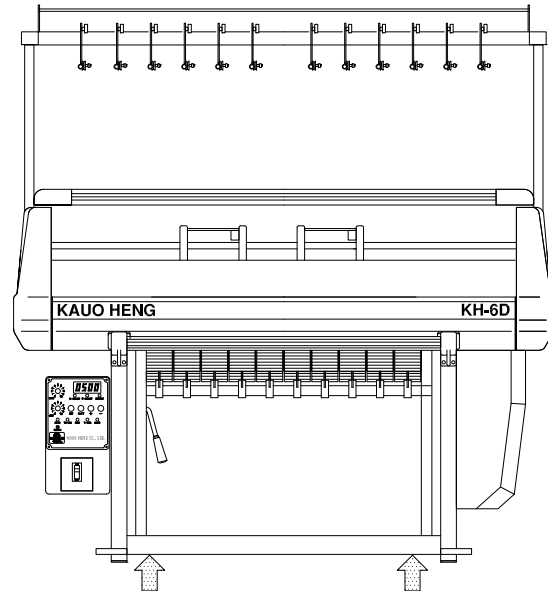

Fig.1.1 Correct position of jacking the machine
- 2 Fig.1.1 illustrates the correct position of jacking while moving the machine. It is very important when moving the machine. The yarn carrier rail shall never be used to push the machine since it will distort the rail.